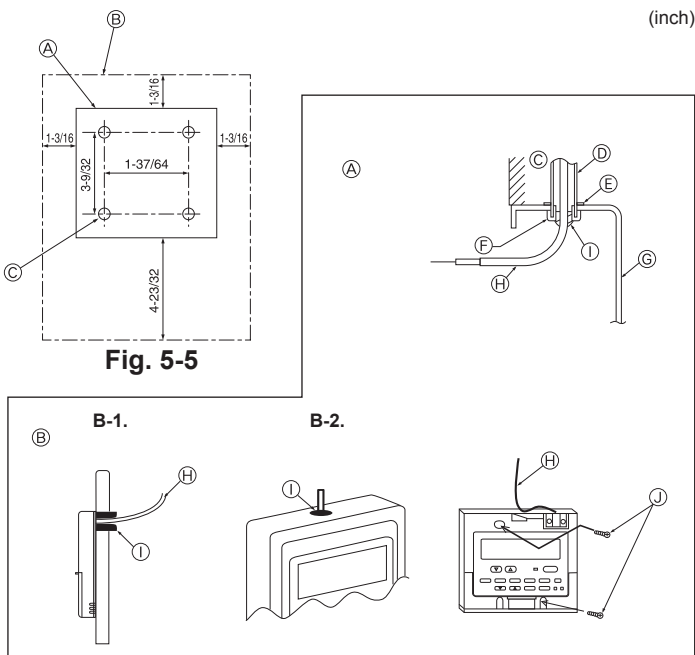

Fig. 5-6
① Remote controller profile
② Required clearances surrounding the remote controller
③ Installation pitch
(2) Seal the service entrance for the remote controller cord with putty to prevent possible invasion of dew drops, water, cockroaches or worms. (Fig. 5-6)
④ For installation in the switch box:
⑤ For direct installation on the wall select one of the following: